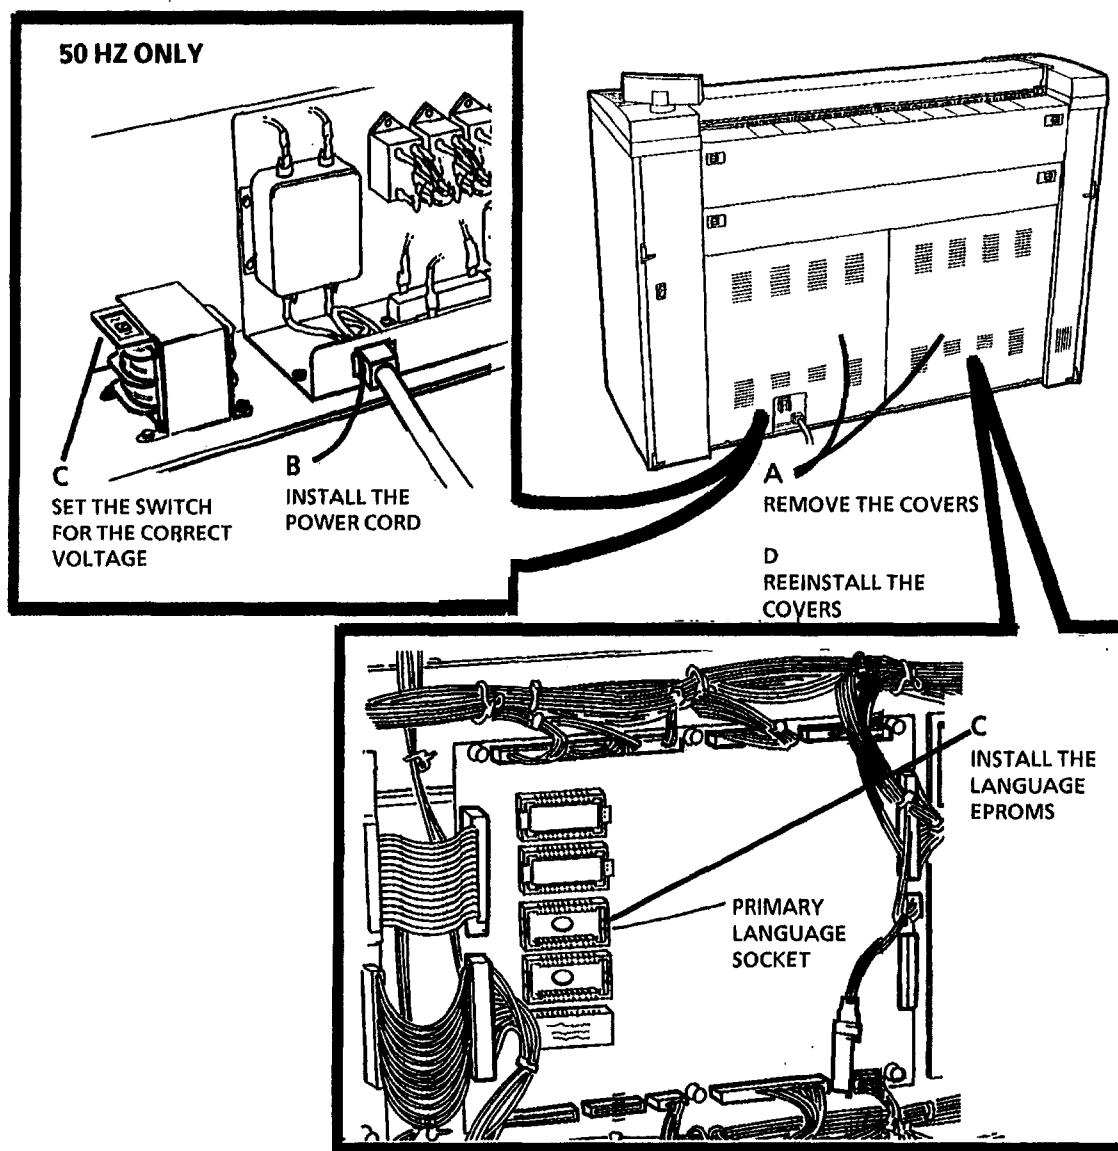

Figure 23. Installing the Language EPROMS
30. (Figure 23): **RX ONLY:** Install the power cord and language EPROMS.